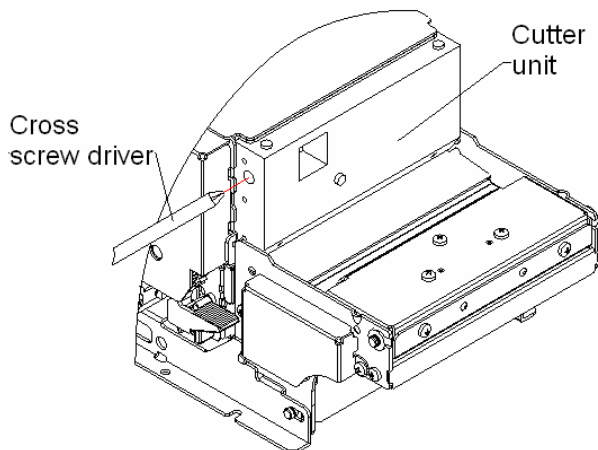

Fig.5.4-1 Manual cutter reset
2. Use the cross screwdriver to go through the hole as figure 5.4-1 and go forward to the cutter motor turbo, rotate the screwdriver along the arrow lightly , until there is big gap between upper and